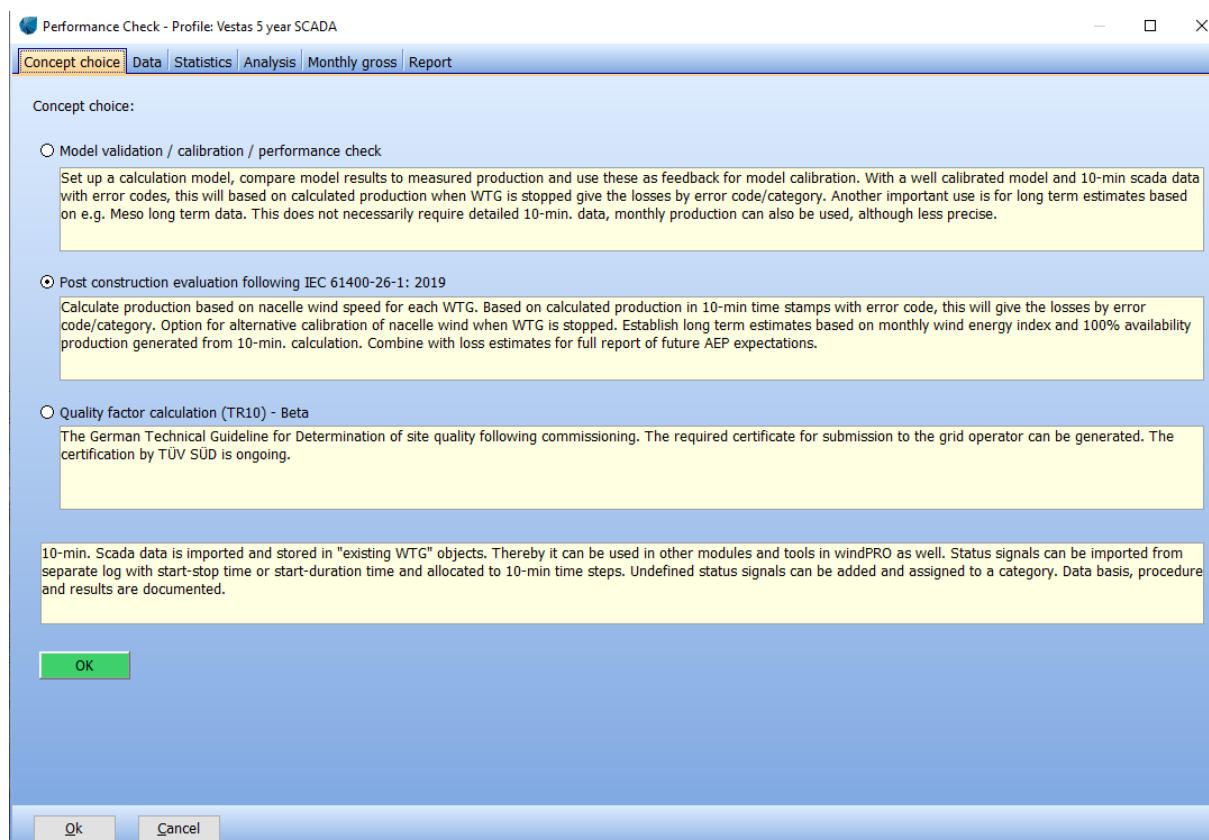

Figure 3: Choice of workflow in Performance Check
*Performance Check* offers different workflows. In this section we explain the workflow and functionalities for *Post construction evaluation* (Figure 3). The process follows the IEC 61400-26-1 structure. The use of this functionality requires a license for Post construction.